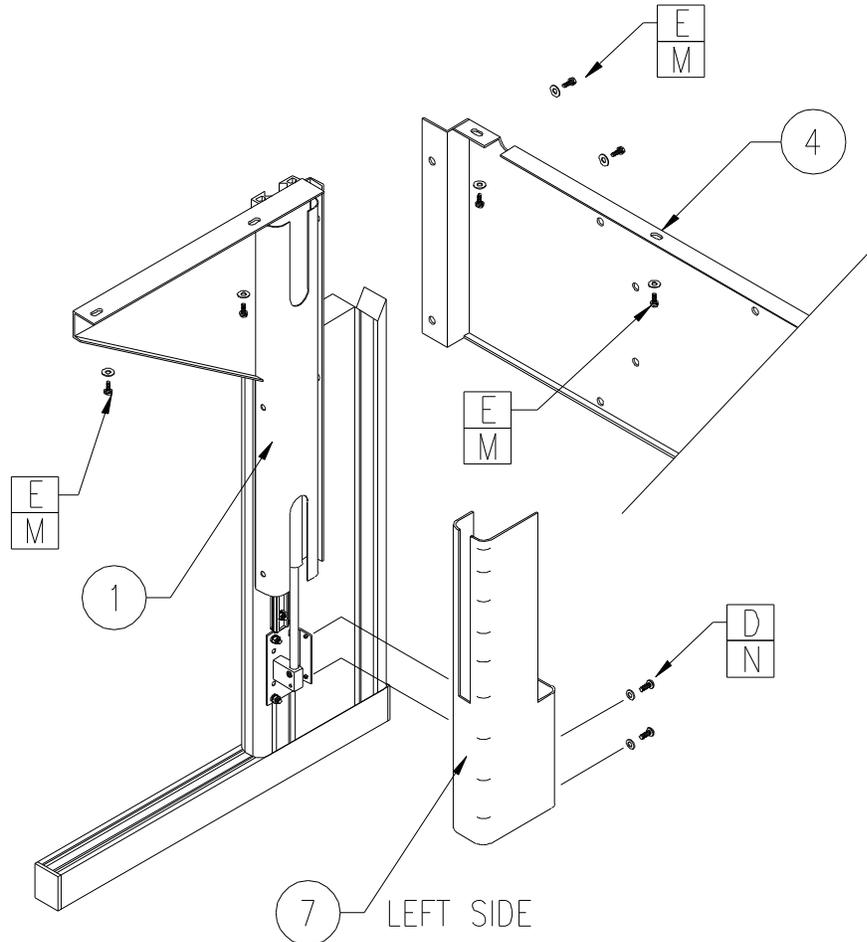

Figure 5
STEP 6: Attach the rear guard panel assembly item 4 Figure 5 to the back of the worksurface support assemblies item 1 Figure 5 using 1/4-20 x .75 hex head bolts item E and 1/4 flat washers item M as shown in Figure 5. **DO NOT** tighten this hardware. At this time lower the worksurface support assemblies to check to make sure they are fitted correctly. To do this apply weight or pressure to the top of both worksurface support assemblies and using the motor power switch turn the motor on in the **DOWN** direction. Lower the worksurface support assemblies to the bottom of their adjustment range. **DO NOT** turn the motor on in the down position without applying weight or pressure to the top of the worksurface support assemblies as this will cause damage to the hydraulic cylinders. Once lowered lift up and then push down gently on the front of the worksurface support assemblies to feel for movement in the system. There should be very
little movement of the worksurface support assemblies. If there is too much movement please see page 12 for instructions on making adjustments to remove the movement. Once any adjustments needed have been made attach the cylinder outer covers items 6 and 7 shown in Figure 5 using #10-32 x .50 phillips screws item D and #10 flat washers item N. Carefully align the cylinder covers so that they are in line with the worksurface support assemblies and tighten these screws. Using the motor power switch raise the worksurface support assemblies approximately 8" out of the cylinder housing.